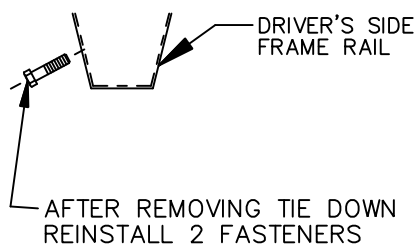

FIGURE 2
NOTE: REINSTALL TWO (2) OF THE FASTENERS IN THE SIDE OF THE FRAME, SEE FIGURE 2.